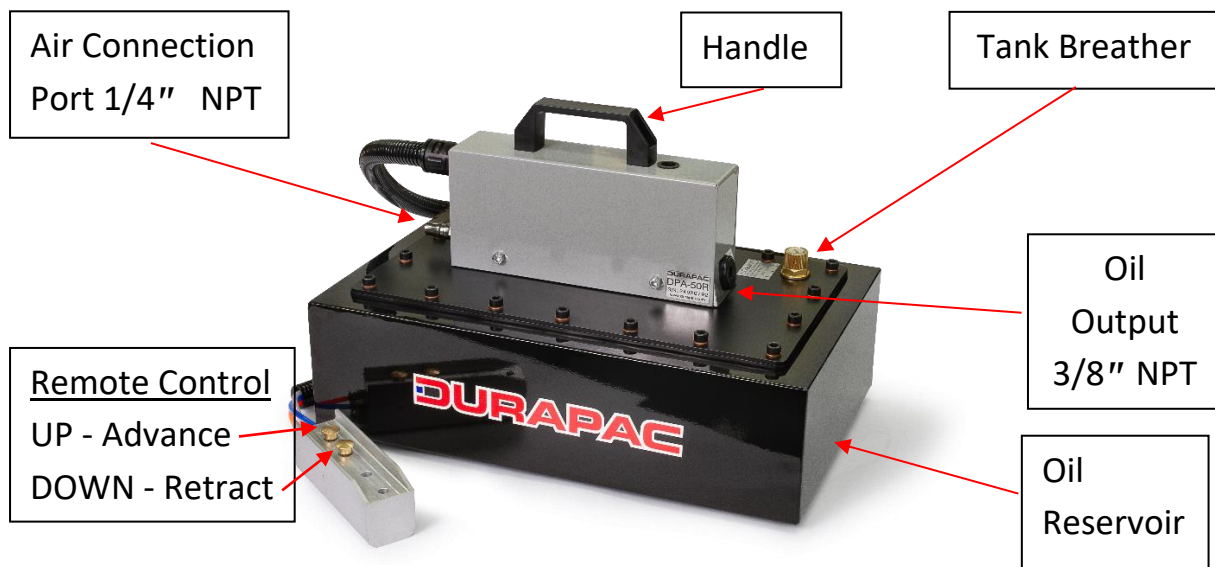

Figure 1 - DPA-50R Components
- 5.1 Air connection - Remove plug from air input port (refer Figure 1) and connect to adequate air supply.
- 5.2 Hydraulic connection - Remove manifold plug from oil output port and connect to suitable application using 3/8" NPT connection. Open tank breather 1-2 turns (refer Figure 1).
- 5.3 To operate/advance the power unit, press and hold on the UP button of the remote control until the desired pressure, load or position is reached (refer Figure 1).
- 5.4 To retract application, simply press the DOWN button on the remote control (refer Figure 1).